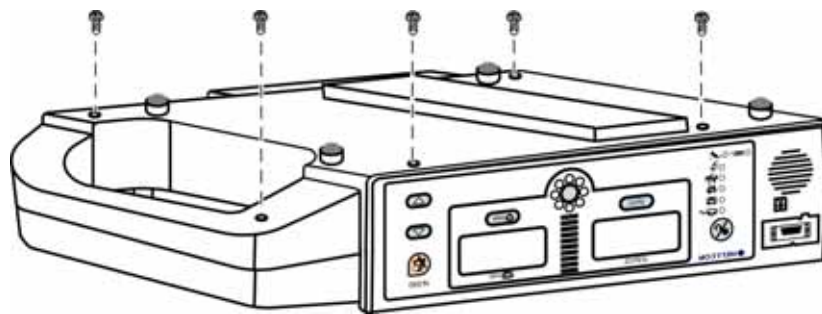

Figure 14: N-550 Case Screws
3. Place the N-550 up-side down and remove the five screws holding the cases together. See Figure 14.